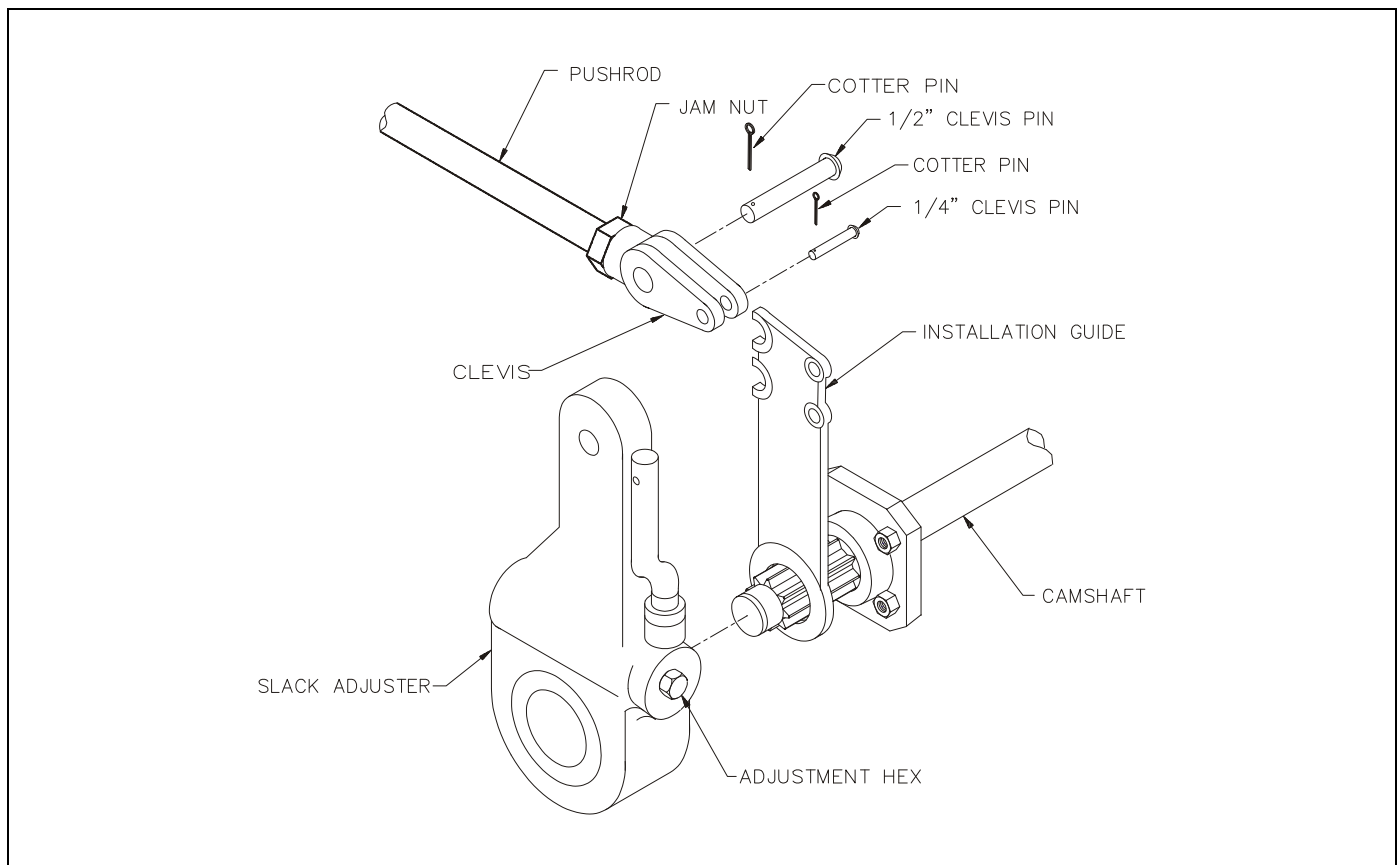

Figure 4-11: Slack Adjuster
4. Disconnect the slack adjuster from the connecting rod by removing the clevis pin (See Figure 4-11.)
3. Remount the brake unit on the axle brackets and reconnect the air service hoses and the slack adjuster connecting rod (See Figure 4-11.)
### Operational Check (See Figure 4-11)
1. Chock wheels to prevent vehicle from rolling. Release spring and service brake. Air chamber push rod must be fully released (**See Figure 4-11**).